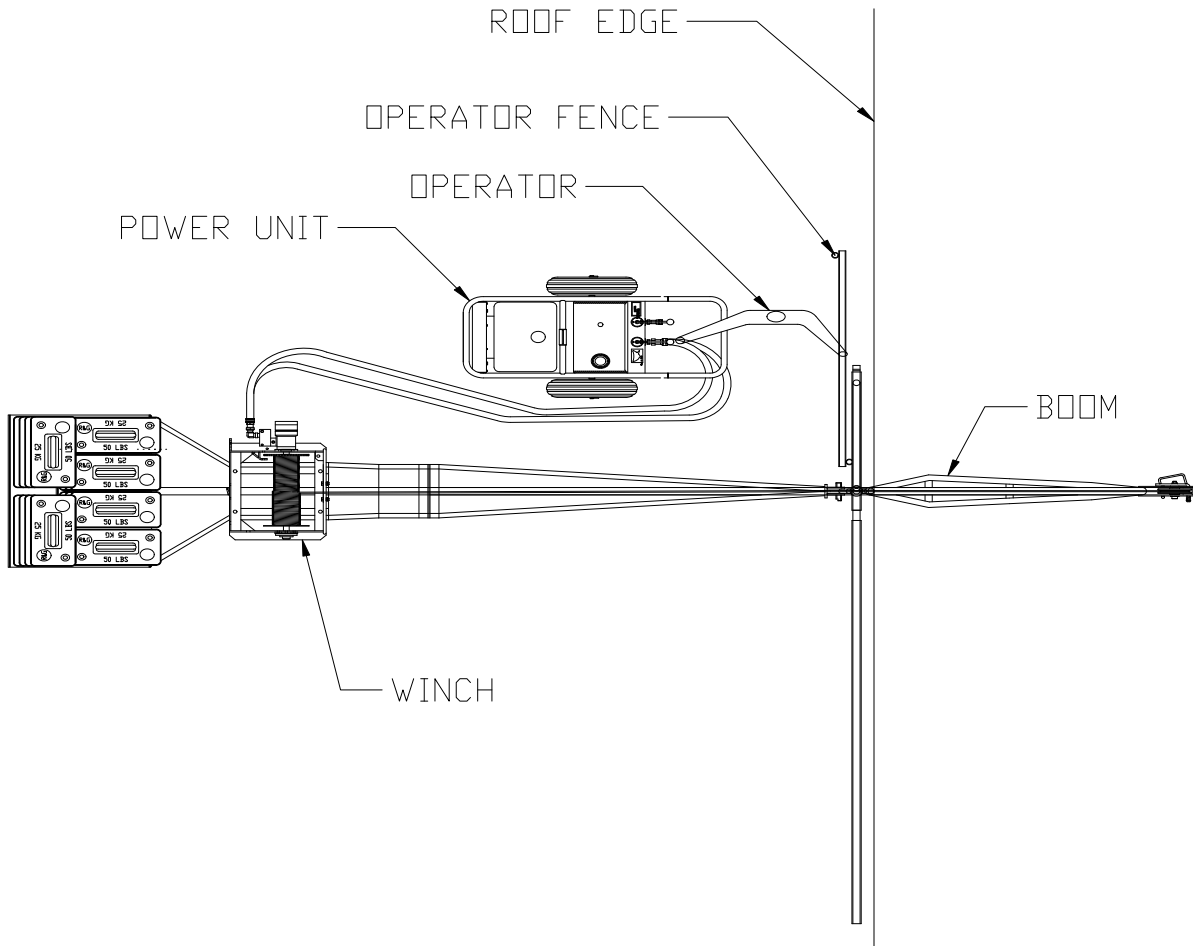

Figure 4-2.
2. The hoist operator must remain behind the operator fence when operating the hoist. All personnel must be protected by OSHA compliant fall protection when handling loads at the roof edge. See Figure 4-2.